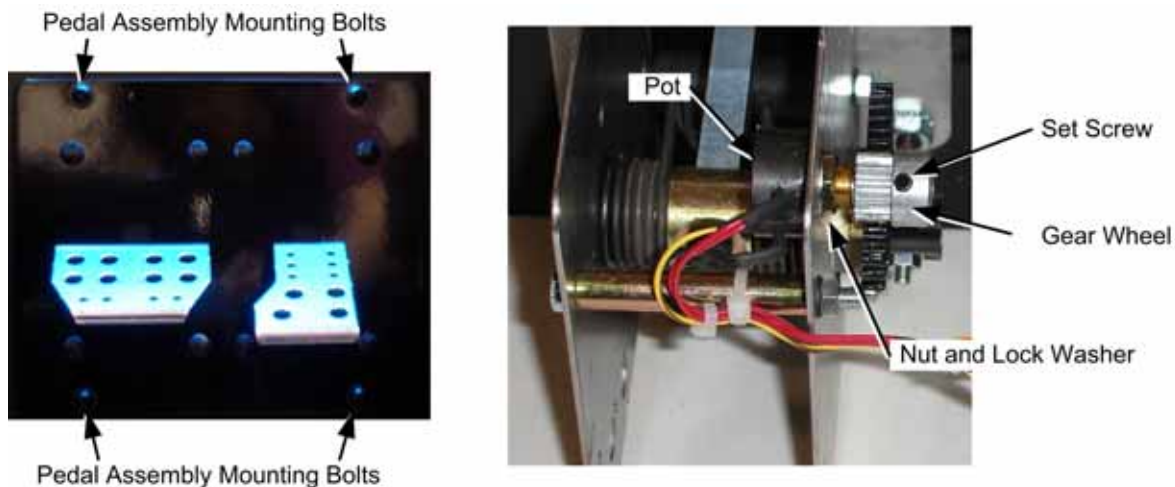

Figure 20. Pedal Assembly Details
To replace a pot, refer to Figure 20 and perform the following steps:
2. Using a 7/64 Allen wrench, loosen the set screw from the gear wheel and remove the gear wheel, as shown in Figure 20.